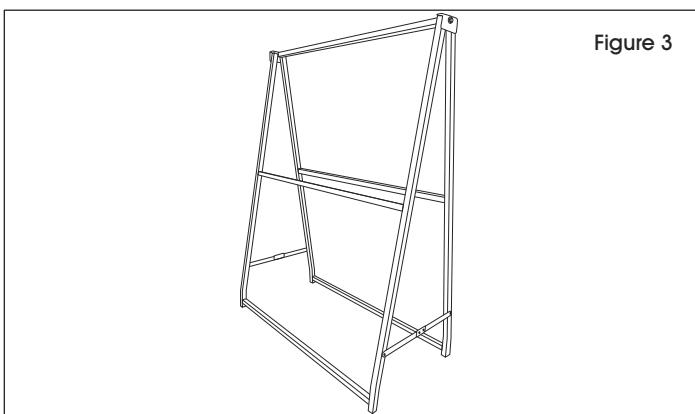

Figure 3
4. Connect second A-frame to the top crossbar and all other crossbars using the same methods as steps 1-3. (See Figure 3)